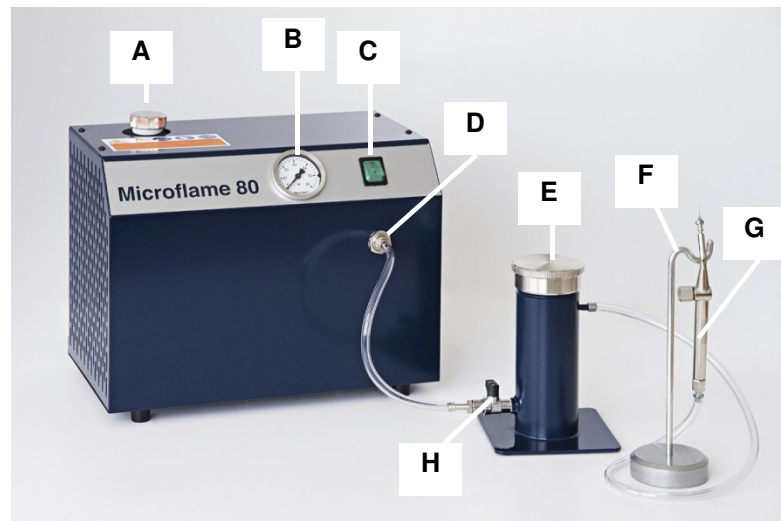

Figure 4.5. Equipment front and side view of MIG-O-MAT microflame 80
1. According to Figure 4.5 connect the workplace booster 4.5.E with a gas hose of approx. 1.0 m length with the gas outlet 4.5.D of the MIG-O-MAT microflame equipment.
1. Unscrew the cap from the filler tube (see *Figure 4.5.A*) of the electrolyte reactor.
This requires turning the equipment off with the main switch (*Figure 4.5.C.*) after reaching the switch-off pressure of approx. 200 mbar, with the valve on the booster input open and the valve of the micro burner closed. The equipment is tight if within the next minute the pressure on the manometer (*Figure 4.5.B.*) does not change.
Turning the equipment off Turn the equipment off with the main switch, *Figure 4.5.C.*
Ensure that the valve on the micro burner (*Figure 4.5.G*) is closed by turning it clockwise.
Open the valve at the gas inlet of the booster container (*Figure 4.5.H*).
Turn the mains switch on Turn the MIG-O-MAT microflame 80 on with the main switch (*see Figure 4.5.C*). The mains control light in the switch shines.
The gas reactor starts gas production immediately. The pressure on the manometer (*Figure 4.5.B*) rises until the equipment automatically interrupts gas production at a pressure of approx. 200 mbar.